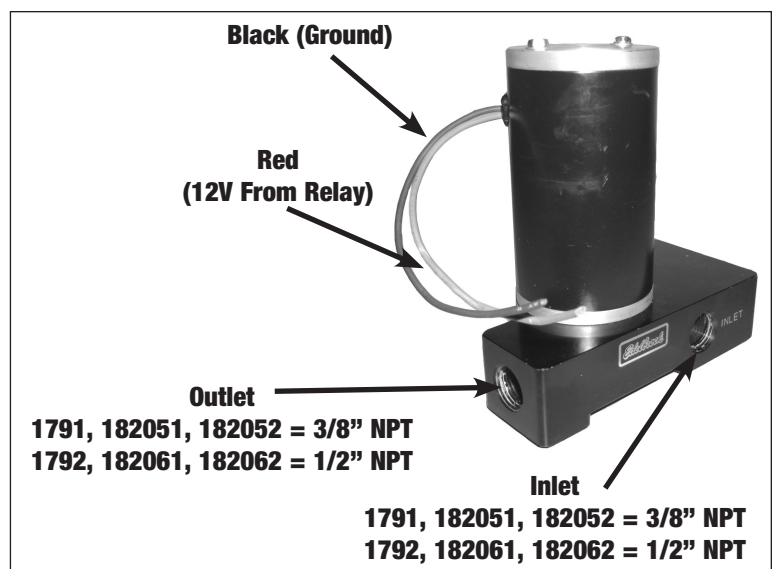

Figure 2 - Fuel Pump
NOTE: These pumps are only designed to push fuel from the rear of the vehicle forward, towards the engine bay. The pump must be mounted below the fuel level or pickup tube inlet for the pump to prime properly on startup. **The pump should be mounted upright as shown in figure 2.**
7. Install the appropriate fittings or use appropriate sized hose ends on your fuel line (**Fuel fittings not included**) (**See Figure 2**). Lightly coat the threads of the fittings with thread sealer before assembly. See the Russell catalog or visit www.russellperformance.com for a selection of fittings and hose ends.
Connect the **BLACK** wire to a battery ground or good engine/chassis ground, and the **RED** wire to the 12v output from the relay being used (**See Figure 2**). The relay should be wired such that power to the fuel pump is only on when the key is on. See the installation instructions to Universal Fuel Pump Relay #1795 for relay wiring instructions.